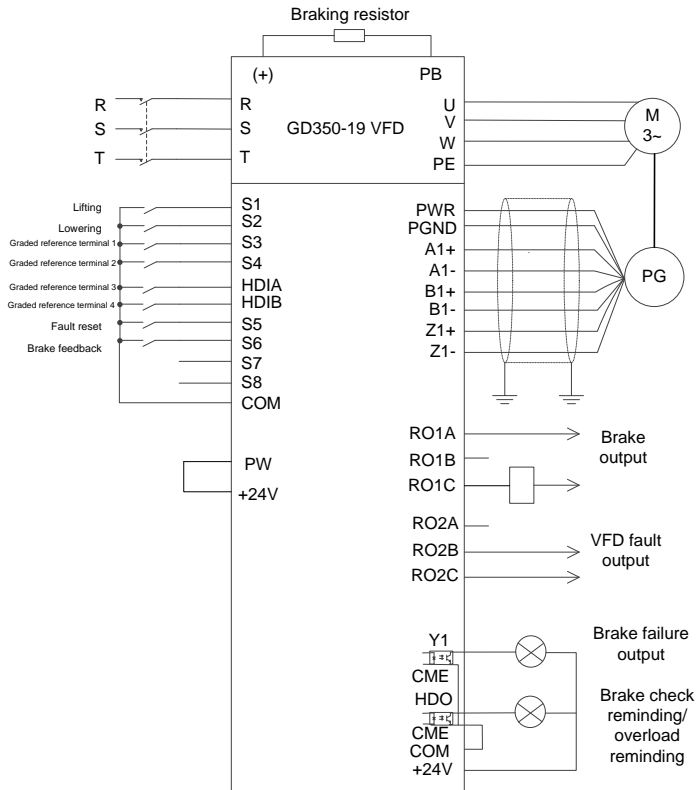

Figure 5.2 Wiring for lifting in closed-loop vector control
**Note:** If the wiring is performed according to Figure 5.2, most VFD parameters need no adjustment. If the onsite function terminals are inconsistent with the terminals shown in the figure, adjust the input and output terminal functions according to the actual wiring after selecting the closed-loop vector controlled lifting application macro.